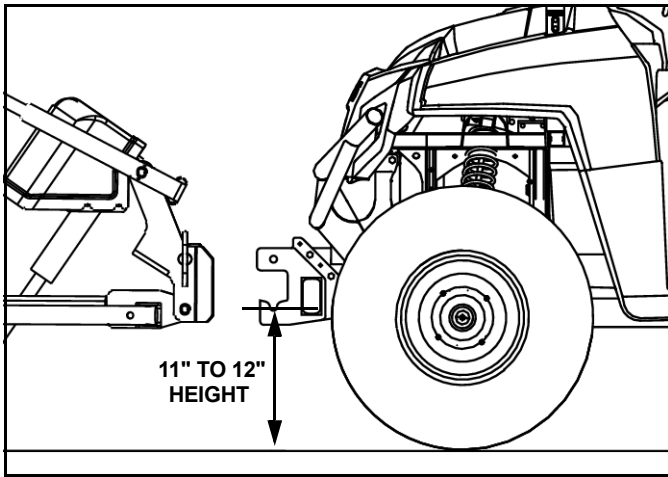

Figure 7
9. Align the UTV Mount (#1) with the holes in the Mounting Weldment (#2). Adjust the UTV Mount (#1) so that the center of the bottom slot is 11-12" off of the ground. (See Figure 7.)